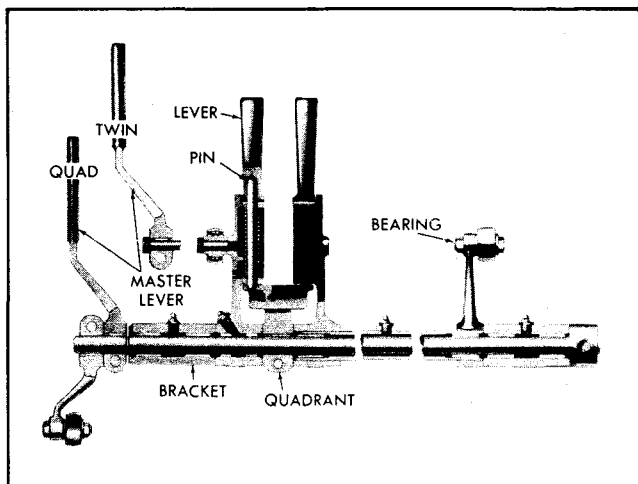

Fig. 1 - Throttle Control Cross Shaft Assembly
2. Make sure that each throttle control lever is locked in place on the quadrant by the latch pin (Fig. 1).